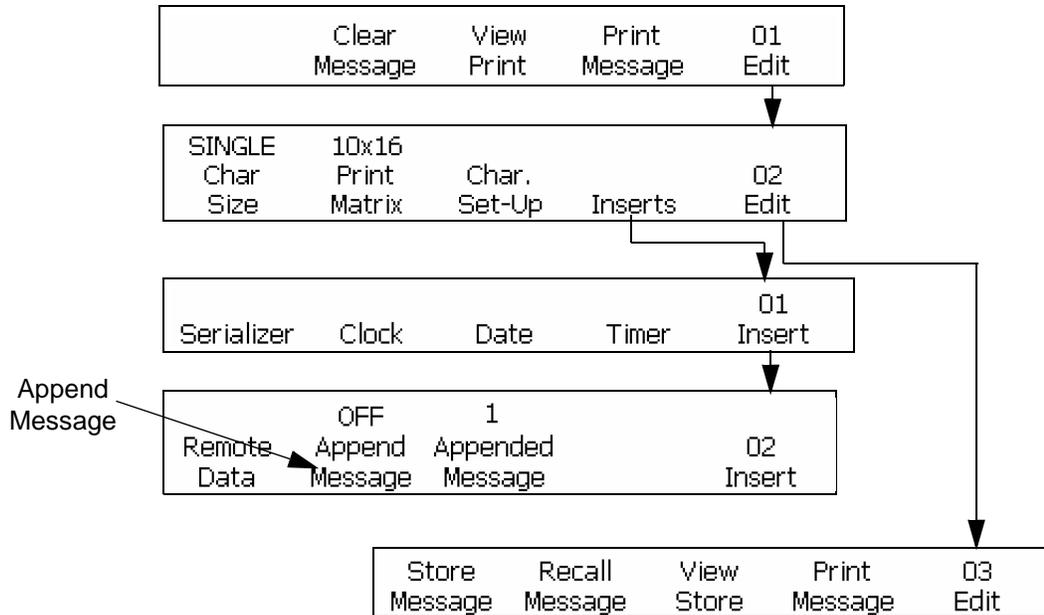

Figure 6-44: Accessing Frame <03 Edit>
- 4 Navigate to Frame <03 Edit>. Refer to Figure 6-44.
- 8 Navigate to the Frame <01 Edit>. Refer to Figure 6-44 on page 6-61.
- 11 Navigate to Frame <02 Insert>. Refer to Figure 6-44 on page 6-61.